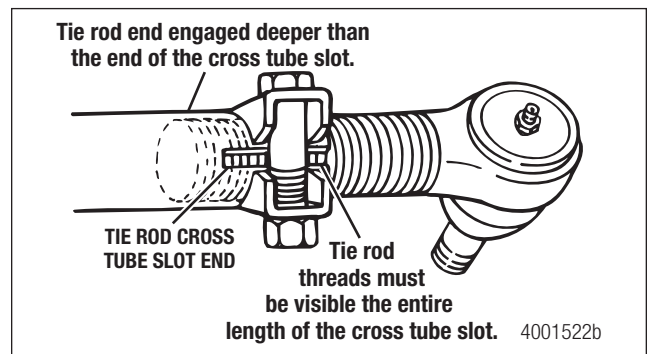

Figure 9.10
- c. Install the threaded portion of the tie rod end into the cross tube beyond the point where the tube slot stops. Figure 9.10.